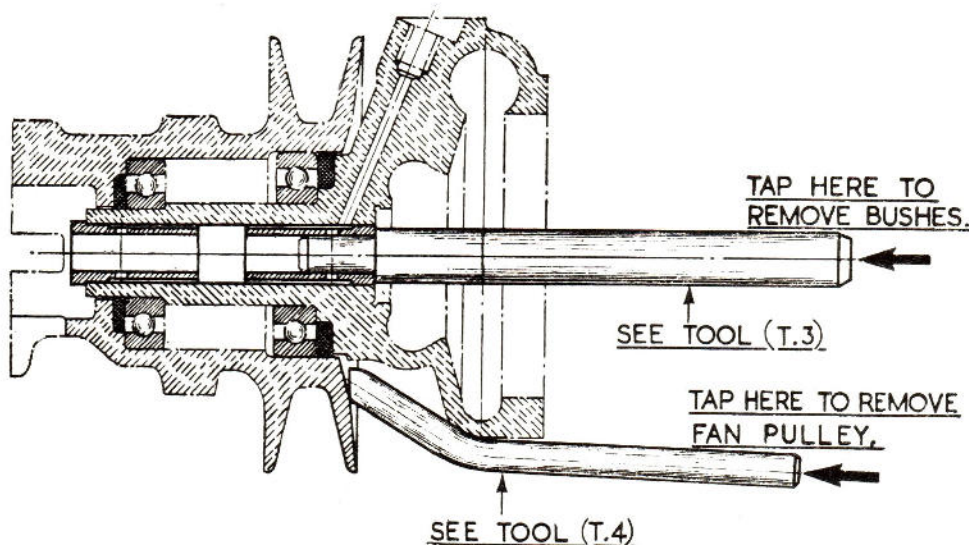

Fig. 17.
6. Fan Bearings can be removed by tapping off pump body. (See Fig. 17).
8. Drive out spindle bushes utilizing a suitable shouldered punch as shown in Fig. 17. This punch is shown in the Section on Tools.